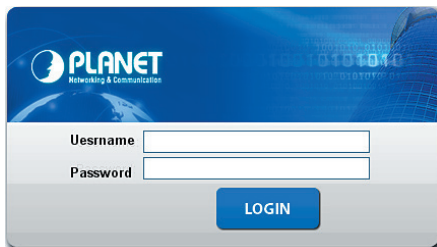

Figure 7-2: Login Screen
2. When the following dialog box appears, please enter the default user name and password "**admin**". The login screen in Figure 7-2 appears.